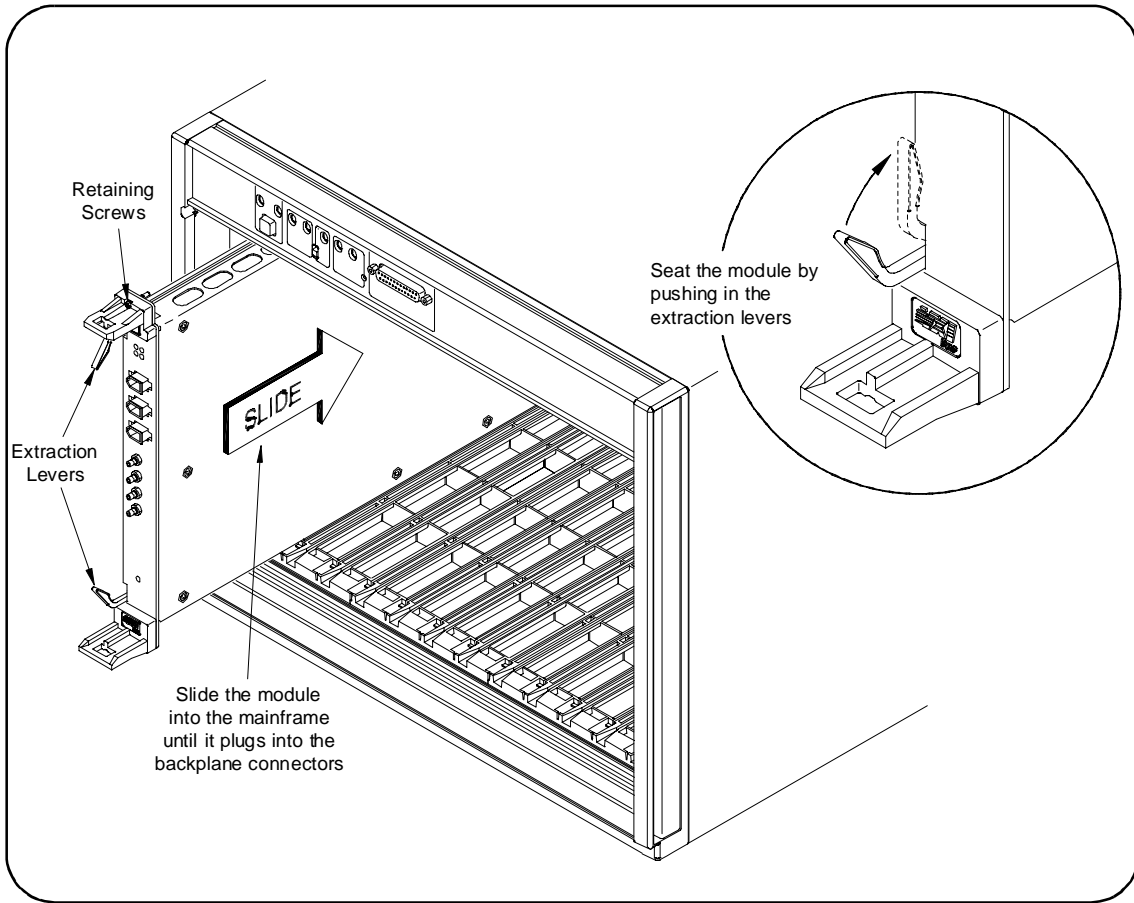

Figure 2-6. Installing the E8491B VXI Interface Card
The following installation steps are referenced to Figure 2-6.
2. Insert the E8491B into mainframe slot 0 by aligning the module with the guides inside the mainframe (Figure 2-6). Slowly push the module into the slot until it seats in the backplane connectors. It may be necessary to pull out (not remove) the retaining screws in order to seat the device securely in the connectors.